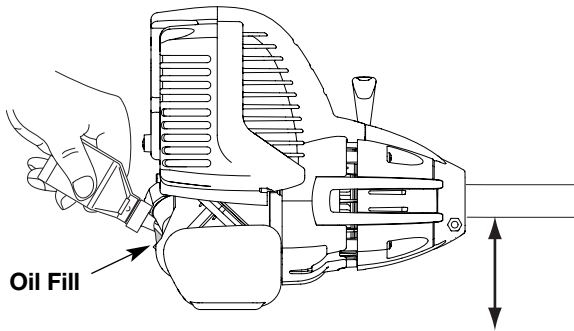

Fig. 8
2. Place the unit on a flat level surface (Fig. 8).
4. Pour the entire bottle of oil into the oil fill hole (Fig. 8).